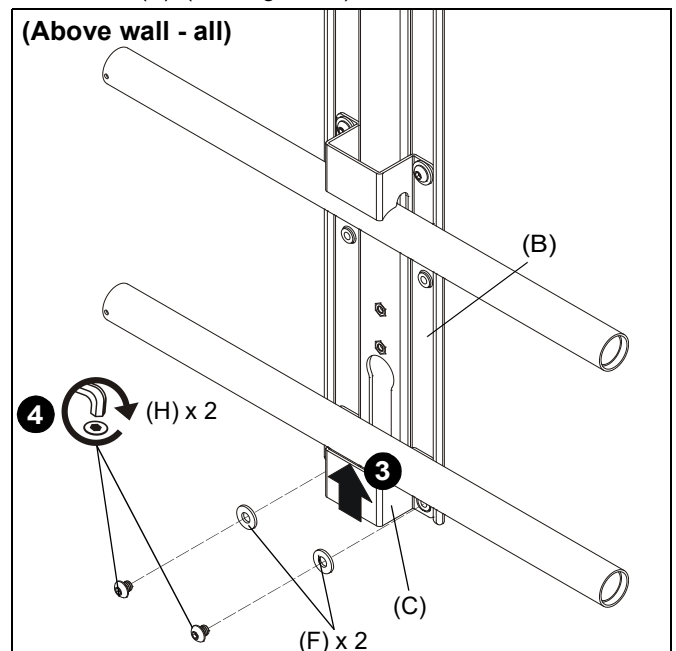

Figure 14
3. Slide second shelf bracket (C) underneath lower rail on wall mount, lining up holes on shelf bracket (C) to holes on main bracket (B). (See Figure 14)
4. Use two 1/4-20 x 1/4" button head cap screws (H) and two large washers (F) to secure shelf bracket (C) to main bracket (B). (See Figure 14)